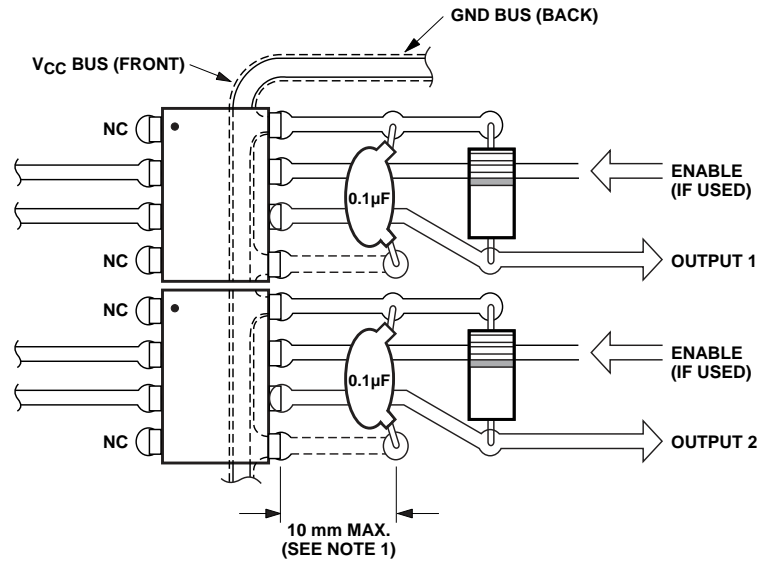

Figure 15. Recommended printed circuit board layout.
1. Bypassing of the power supply line is required, with a 0.1  $\mu$ F ceramic disc capacitor adjacent to each optocoupler as illustrated in Figure 15. Total lead length between both ends of the capacitor and the isolator pins should not exceed 20 mm.